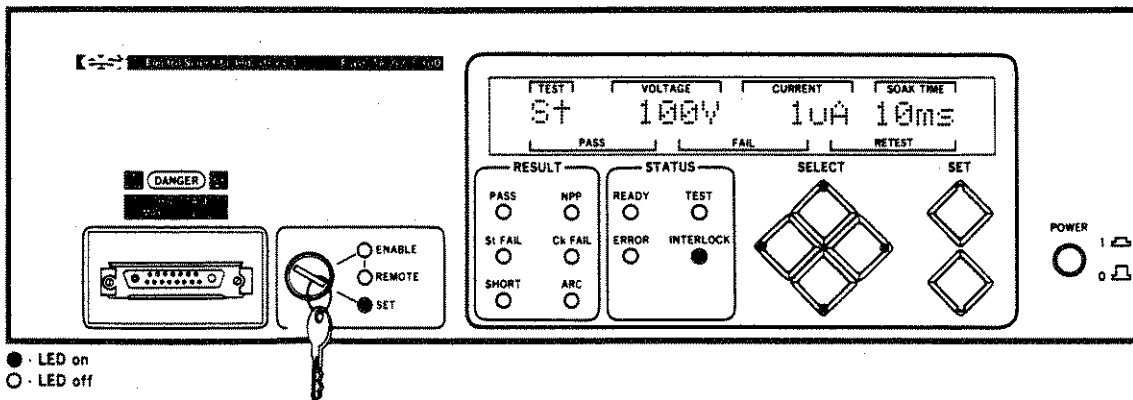

Figure 3-29. Stress Test Conditions Display
STEP 15. Press the UP pushbutton. The display should indicate the Check test conditions. Press the UP pushbutton again. The display should indicate the Stress test conditions. Notice that neither the INC LED nor the DEC LED are illuminated, indicating that the test conditions cannot be changed. Figure 3-29 is an example of this.